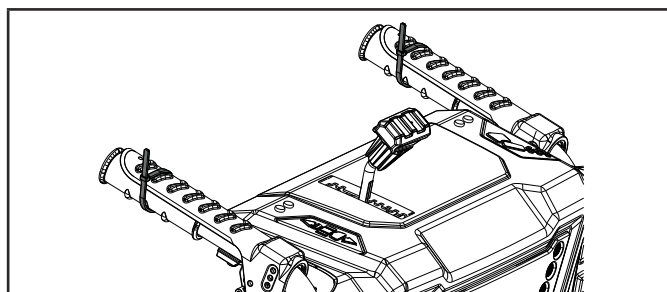

Figure 3
2. Remove cable ties off of the hand levers. Hold hand lever down against hand grip to take the pressure off of the zip tie. Use a side cutters, pliers, or scissors, to cut the cable tie or just slide the zip ties off (Fig. 3). Release the hand lever and it will spring upward at a 45° angle.